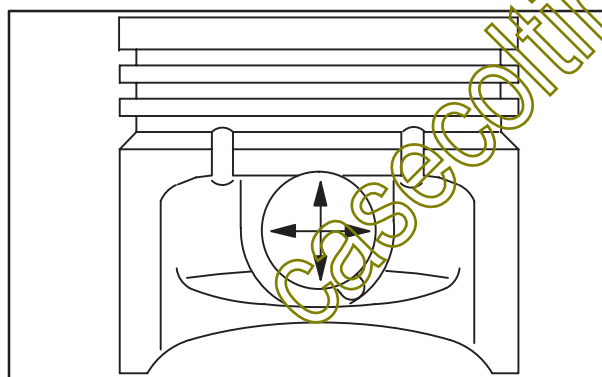

Fig. 5
3. Check piston pin bore, **Fig. 5**. Replace piston if worn beyond reject dimension or 0.0005" (0.01 mm) out of round.